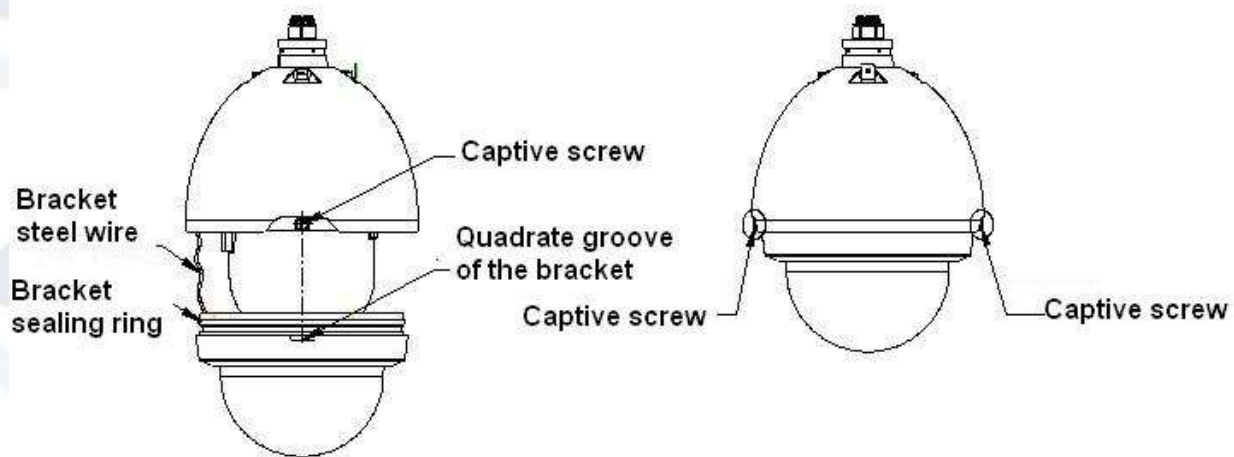

Figure 2-3
2. Please line up the captive screws to the quadrate groove of the bracket and then push the bracket into the internal enclosure. Fix these two captive screws in to place. See Figure 2-3.